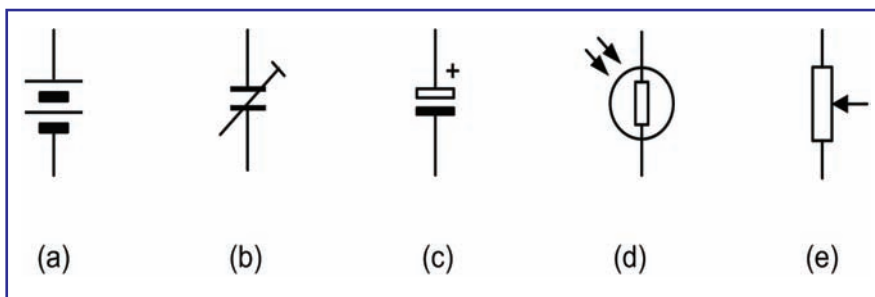

Fig.2.12. See question 12
12. What components are represented by the circuit symbols shown in Fig.2.12?